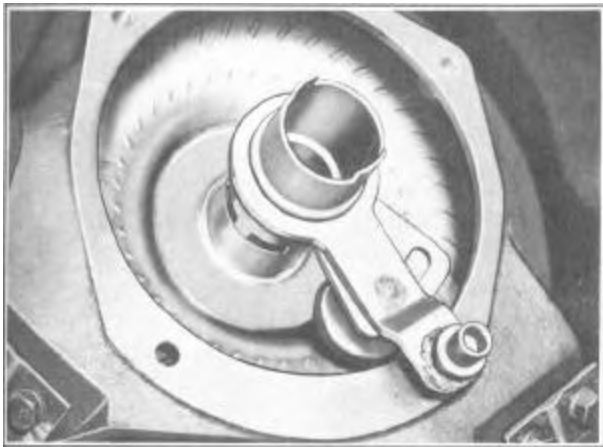

FIGURE 137
- B. Loosen the thumb screw (2) and install the fixture over the splines, inserting it into the transmission as far as it will go; make sure that the two prongs on end of fixture are indexed properly in the front pump drive gear, and that the positioning arm sector points toward one of the lower studs (4).
- C. Move the positioning arm and the transmission companion flange until the positioning pin (3) slips easily over one of the lower studs.
- D. Tighten the thumb screw (2) to lock the positioning arm in place.
- A. Work the alignment fixture into the torque converter assembly until the splines and pump drive fingers are properly lined up on the fixture, Figure 137.